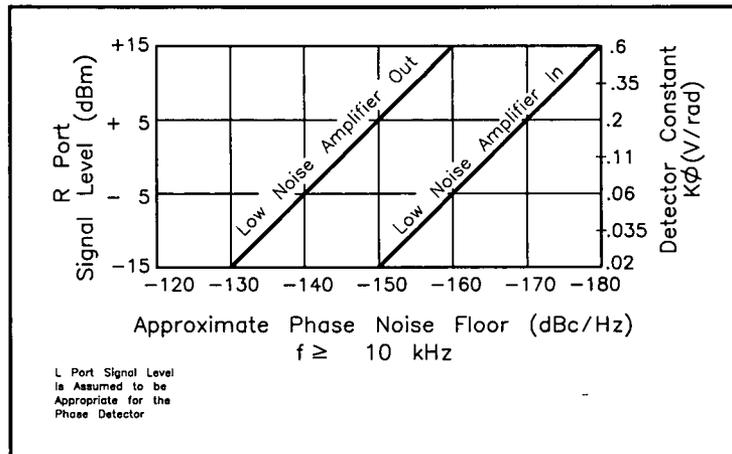

Figure 4-7. Phase Detector Sensitivity
3. Locate the power level you measured on the left side of the Phase Detector Sensitivity Graph (Figure 4-7). Now move across the graph at the measured level and find the corresponding Phase Detector constant along the right edge of the graph. This is the value you will enter as the "Current Detector Constant" when you define your measurement. (Note that the approximate measurement noise floor provided by the R port level is shown across the bottom of the graph.)